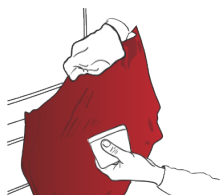

Figure 23
- › If necessary, lift the film, stretch it again and completely wrap the convex surface, then apply it. (FIG. 23)